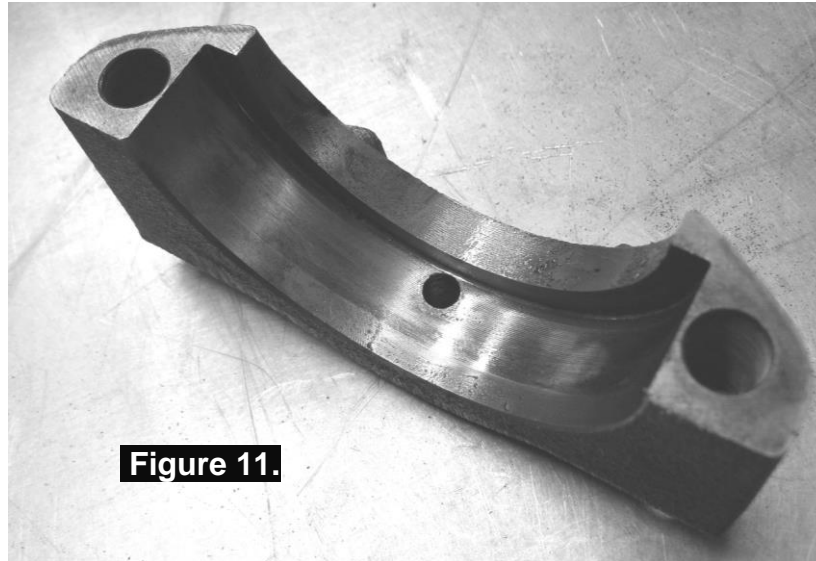

Figure 11.
- Using a pedestal drill, drill a 6.35mm [1/4"] hole through the bearing cap, in the position shown, so that the drill is against the edge of the bearing stop. (Fig.11.)